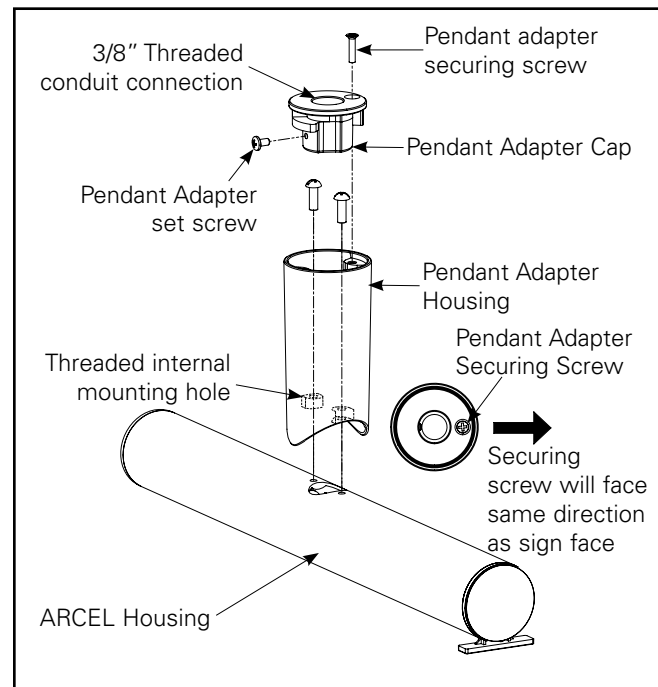

**Figure 7.**
2. Open the box containing your Mullion Adapter Assembly and unpackage the unit. Disassemble the unit by removing the Cover Screws on either side of the Mullion Adapter Housing. (See Figure 7)